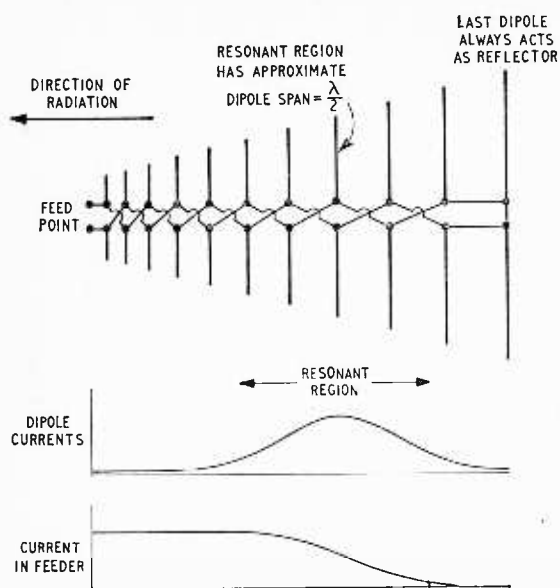

Fig. 3. Schematic diagram of logarithmic dipole aerial. When frequency is changed resonant region moves along array.
Propagation in a Waveguide:—If we wish to constrain an electromagnetic wave so that it is propagated in an enclosed path such as a tube or waveguide, without significant attenuation, it must be arranged to comply with certain laws propounded by Maxwell. These state among other things, that for an electromagnetic wave to propagate along a plane surface the electric field must be at right angles to, or zero at that surface. Let us now consider two waves, each like that shown in Fig. 2 crossing each other at an angle to produce the field pattern as shown in Fig. 3. At all points along lines A the electric field cancels and we have the conditions (zero field) for the Maxwell equations. We can, therefore, put plane surfaces at any of the lines A and the wave will propagate in the direction shown in Fig. 3.
If we enclose the other two sides the equations will again be met as the E field will cut them at right angles. It will be seen then that a wave can be directed down a rectangular tube provided that the sides A are correctly spaced. Let us consider the limits of positioning the sides with regard to the wavelength of the signal we wish to propagate. It will be seen from Fig. 3 that the two waves that make up the pattern may cross at any angle between zero and 90°, but in all cases the guide wavelength (λ_g) is always greater than the free-space wavelength (λ_0).
Referring again to Fig. 3, it can be shown from simple geometry that
Modes:—Referring again to Fig. 3 we can place our broad or “ a ” dimension of the guide on any two of the A lines. Considering two adjacent lines we will obtain field patterns as shown in Fig. 4. This is called the “ H_{10} (magnetic)” or “ TE_{10} (transverse electric)” mode, meaning that the variation of electric field is across the guide, with no longitudinal component, the (1) denoting that there is one maximum across the broad dimension and the (0) denoting that there is no maximum across the narrow dimension.
We have already seen that for a particular “ a ” dimension there is a lower frequency limit. If, however, the frequency is increased λ_o will decrease until it is possible to accommodate two sets of zero E lines, i.e. A to A' in Fig. 3, between the waveguide walls. This mode is termed H_{20} following the same reasoning as above. It will readily be seen that given correct dimensions with relation to frequency modes of any suffix can be propagated. This, however, causes great difficulty of measurement and manipulation, so various waveguide sizes are used for given bands of frequencies so that only the TE_{10} mode is propagated (thus setting the upper
Above: Fig. 3. Plane surfaces inserted at positions A in a free field simulate the action of a waveguide.